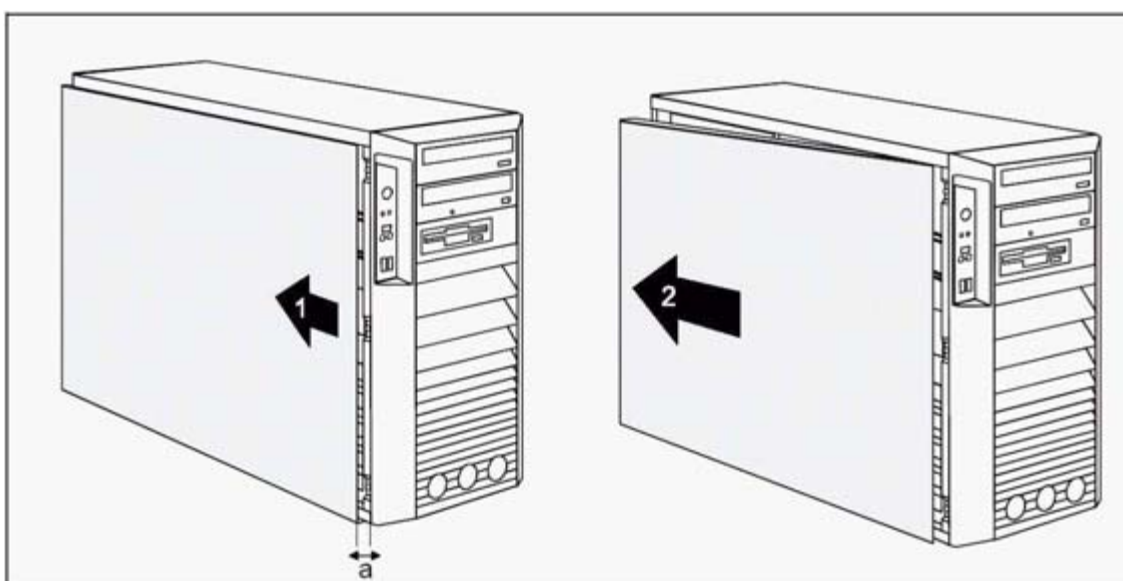

Fig. 49: Remove PC cover_b M450_
5. Slide the side cover approximately 2 cm (a/ Fig. 49 / p. 94) in the direction of the arrow (1/ Fig. 49 / p. 94) until the stop.
6. Pull the side cover in the direction of the arrow (2/ Fig. 49 / p. 94) on the casing.